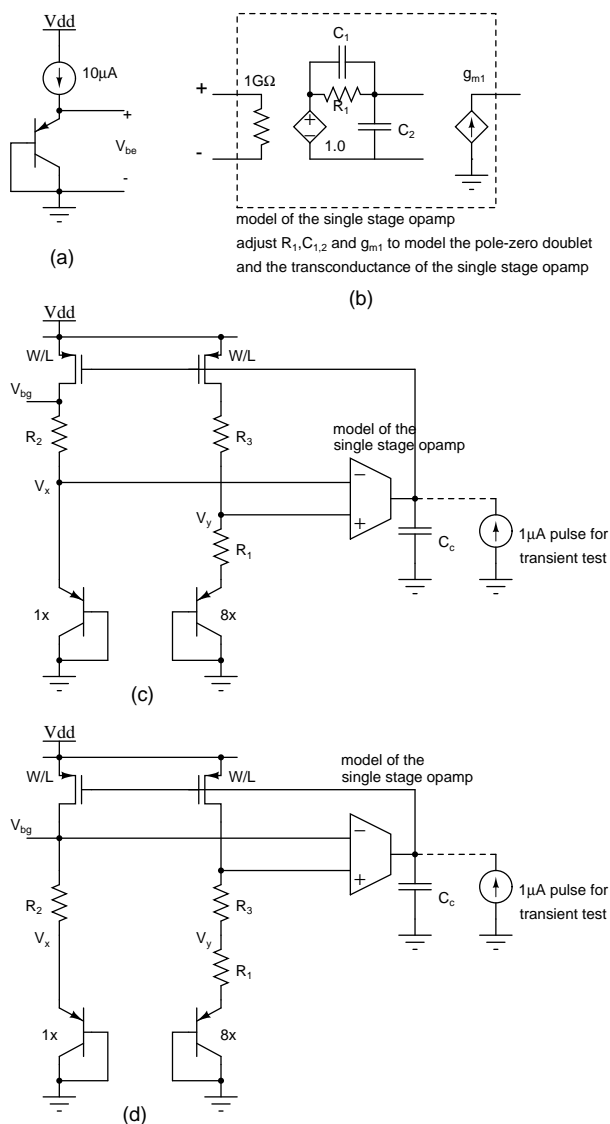

Figure 7: Bandgap reference
- Bandgap reference:** Bias a 1x sized diode connected PNP² at 10 μ A as shown in Fig. 7(a) and sweep the temperature from 0 to 100 $^{\circ}$ C. Determine dV_{BE}/dT at 27 $^{\circ}$ C.
Design the bandgap shown in Fig. 7(c). Choose R_1 for a quiescent current of 10 μ A and R_2 to get zero temperature coefficient at V_{bg} . Choose $R_3 = R_2$. What is the role of R_3 ? Simulate the bandgap reference with the model of a single stage opamp designed in HW5 (Fig. 7(b)-model the g_m , and the pole zero doublet). Choose C_c so that the phase margin is 60 $^{\circ}$. Test the transient response by applying a 1 μ A pulse to the output of the opamp. Simulate over tem-
Modify the circuit as in Fig. 7(d). How should V_x , V_y , and V_{bg} change? What is the purpose of this modification? Resimulate with the opamp model as before and test the temperature sensitivity, transient response and the loop gain.